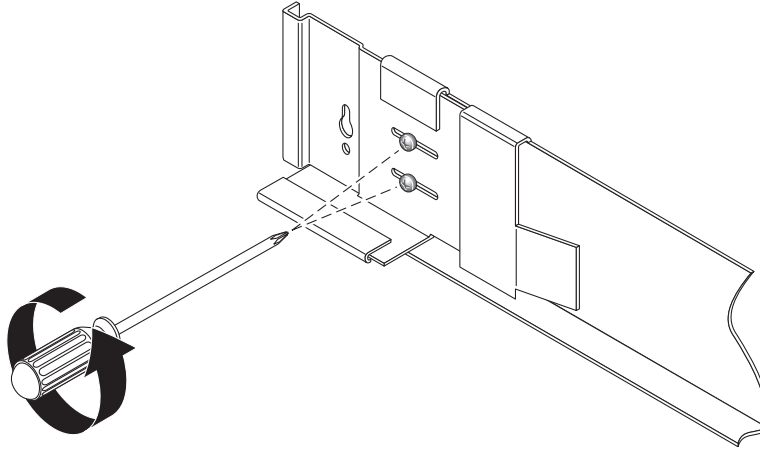

FIGURE 2-2 Loosening the Rail Screws to Adjust the Rail Length
1. Using the No. 2 Phillips screwdriver, loosen the side-rail screws and adjust each rail to its maximum length (FIGURE 2-2).